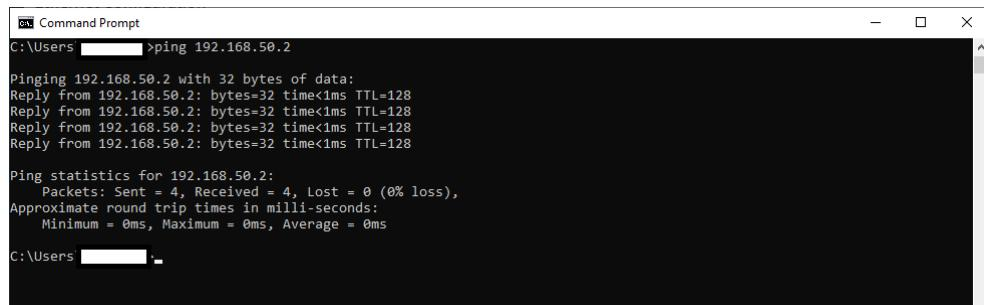

Fig. 3.19: Command prompt window with the command for testing the communication at the selected IP address.
5. The user can check that the connection is established by trying to ping the board via the Command Prompt (see **Fig. 3.19**) and checking the displayed message.